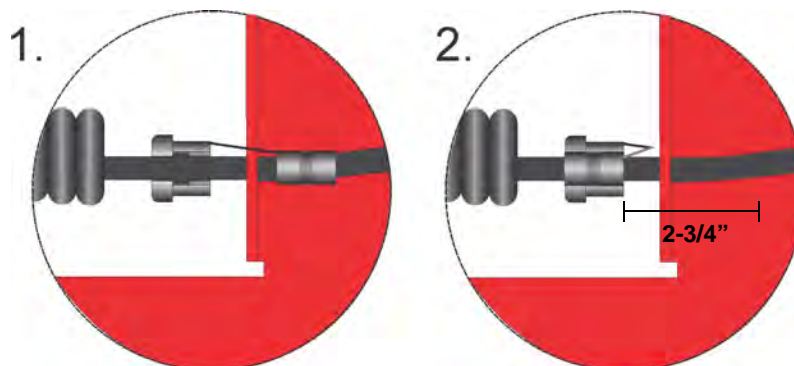

Figure 4.60 Installing Strain Relief Clip
3. Attach strain relief clip to microphone cord. The strain relief clip should have about 2¾" of microphone cord through it. See Figure 4.60.